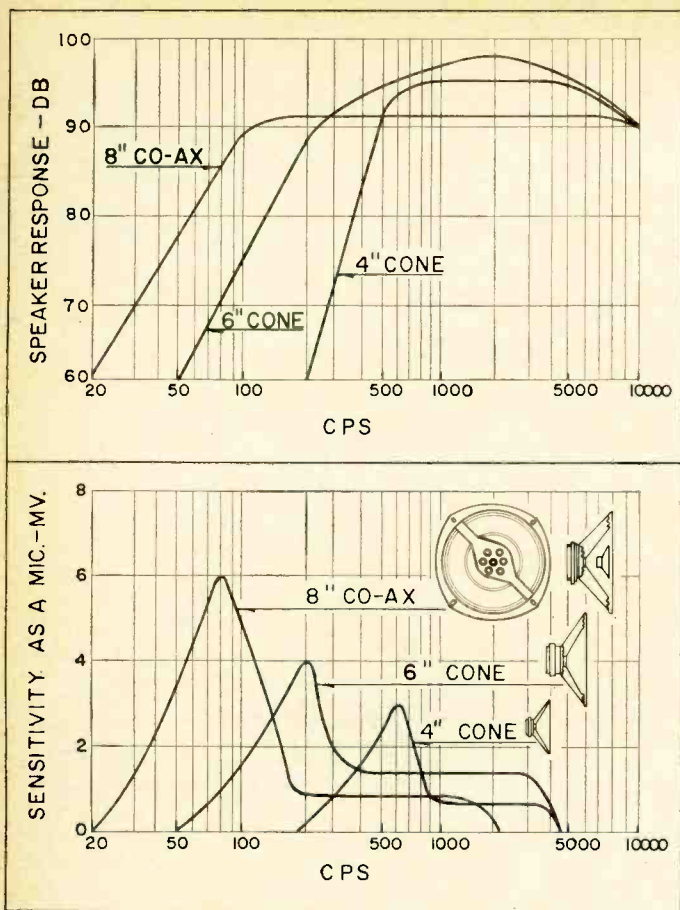
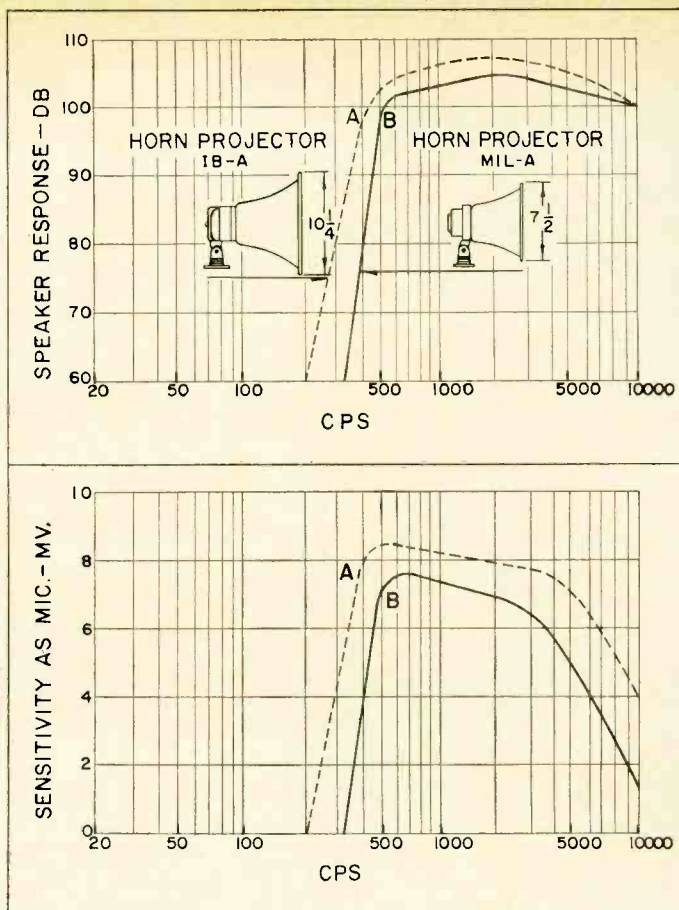

Fig. 1. Correspondence between response as speaker and sensitivity as a microphone for three cone units.
Fig. 2. Correspondence between response as speaker and sensitivity as a microphone for two horn projector units.
Although the loudspeaker finds it hard to discriminate against the unwanted components of the ambient noise and reverberation that ride along with the reply signal, yet there are characteristics of loudspeakers that make some usable as distant pickup microphones. For this discussion, a group of cone speakers were analyzed for their speaker-microphone correlation, as shown in *Fig. 1*, and a similar analysis was made for a pair of "paging-talk-back" projectors whose mouth dimensions were comparable to the cone speakers (*Fig. 2*). Because of the several curves shown in each figure, they have been smoothed out and generalized for purposes of clarity of the main characteristics involved.
*Figure 1* indicates the response as speakers of three different types of cone speakers: a small 4 in. cone typical of the standard "intercom" system; a 6 in. cone of the type usually seen in sloping front wooden cabinets hung on walls or suspended from ceilings and beams; and an 8 in. co-axial consisting of a small cone tweeter mounted across the face of the woofer. This latter unit is a popularly used unit in ceiling installations using back boxes and flush mounted grills. This type of speaker has been included because of its greater upper frequency wide angle dispersion (due to the tweeter) than a simple cone, which theoretically results in greater floor area coverage for a given articulation index. Note that the emphasis on this latter type of speaker is not wide range for high fidelity purposes, but for communicable intelligence reasons. It was therefore included in this treatment of intelligible communication efficiency as a talk-back device.
as shown in Fig. 1 are as to be expected. The 4-and 6-in. units have essentially the same middle and high frequency response; however, there is a significant downward extension of response from 500 cps to 200 cps for the 6-in. cone in reference to the 4-in. cone. Similarly, for the 8-in. co-ax there is a further frequency extension down to 80 cps before the unit begins to roll off. From these response characteristics as speakers, one would have to conclude that the order of preference for the reproduction of sound into a listening area would be first the 8 in. co-ax, then the 6 in. unit, and last the 4 in. unit. This conclusion may, however, be an erroneous one if the reverberant conditions of the receiving area are not taken into consideration.
Considerable time has been spent on the relative importance of room reverberation and room noise because they become even more important when the speakers are used as remote reply microphones. Figure 1 illustrates the microphone characteristics of the three cone speakers used in this analysis. The striking feature of all three characteristics is the extremely peaked response at the resonant frequency of each unit with greatly attenuated response over